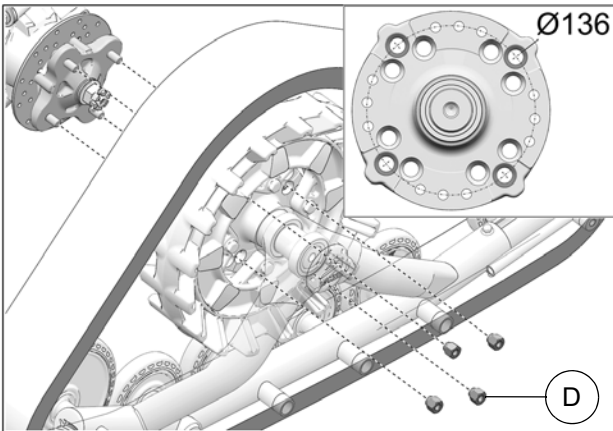

Fig. 11
9. Secure undercarriage to rear hub using the lug nuts (D) provided. Use bolt circle $\text{Ø}136 \text{ mm}$. See Fig. 11